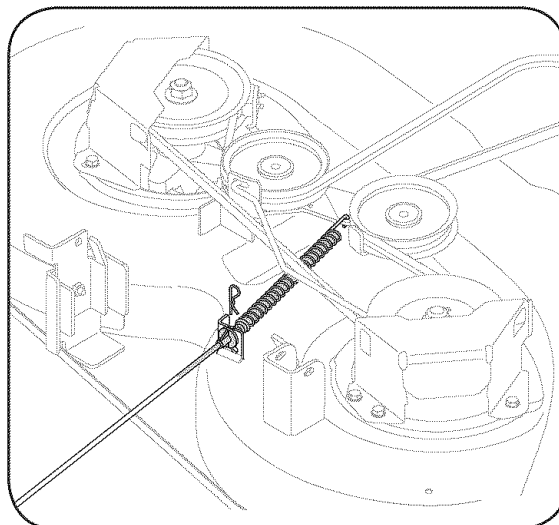

Figure 6-4
8. Carefully remove the PTO cable from the rear of the cutting deck by removing the hair pin clip which secures it. Remove the spring from the deck idler bracket. See Fig. 6-4.